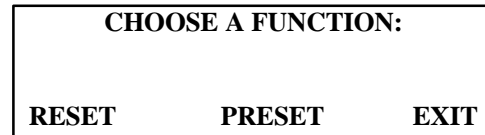

Figure 1
2. The first menu offers three functions: **RESET**, **PRESET**, and **EXIT** (Figure 1). **RESET** allows you to clear all values from past sessions and enter new values. **PRESET** allows you to view the values set during a prior session and to change those values if necessary. **EXIT** allows you to end your session.